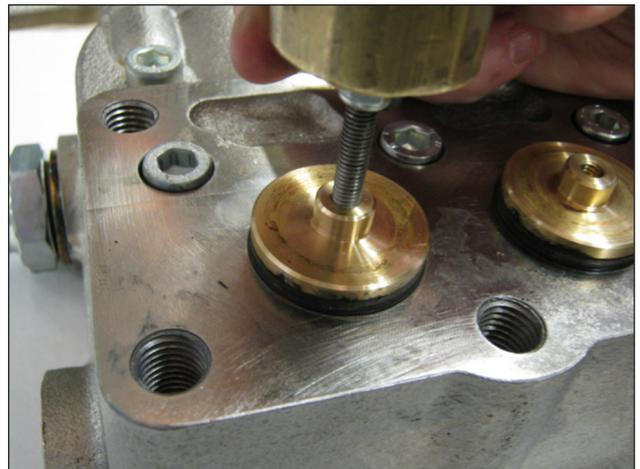

Fig. 17
- The KT24-26-28-30-32 - KTR-28-32 - WK155-WK6 pump suction and outlet valve plugs (Fig. 17);